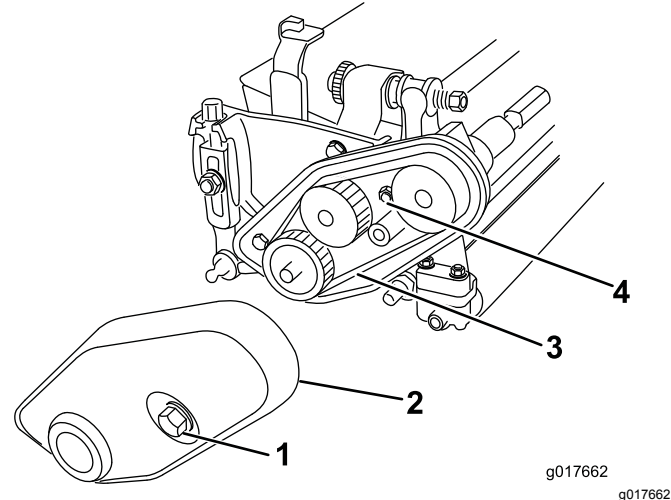

Figure 3
7. Loosen the captive bolt securing the belt cover to the left end of the cutting unit until you can remove the cover (Figure 3).
8. Loosen the belt tensioning nut and remove the belt (Figure 3).